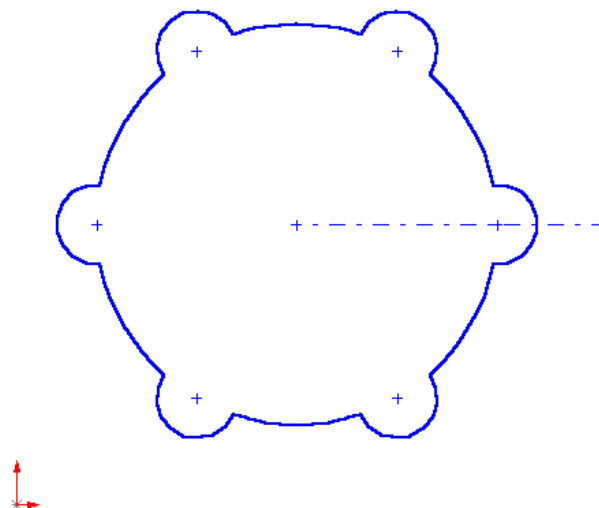

Figure 2-40 Outer loop of the sketch
19. Trim the unwanted portion of the outer trimmed circle using the **Sketch Trim** tool. Now, the outer loop of the sketch is complete. The sketch should look similar to the one shown in Figure 2-40.